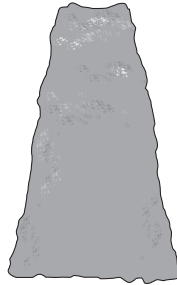

Fig. 16
**NOTE:** When shaping it is advisable to achieve a trapezoidal shape (Fig. 16). A trapezoidal cut corresponds to the natural growth of plants and results in optimal hedge growth, as it will expose more light to the lower end of the hedge.